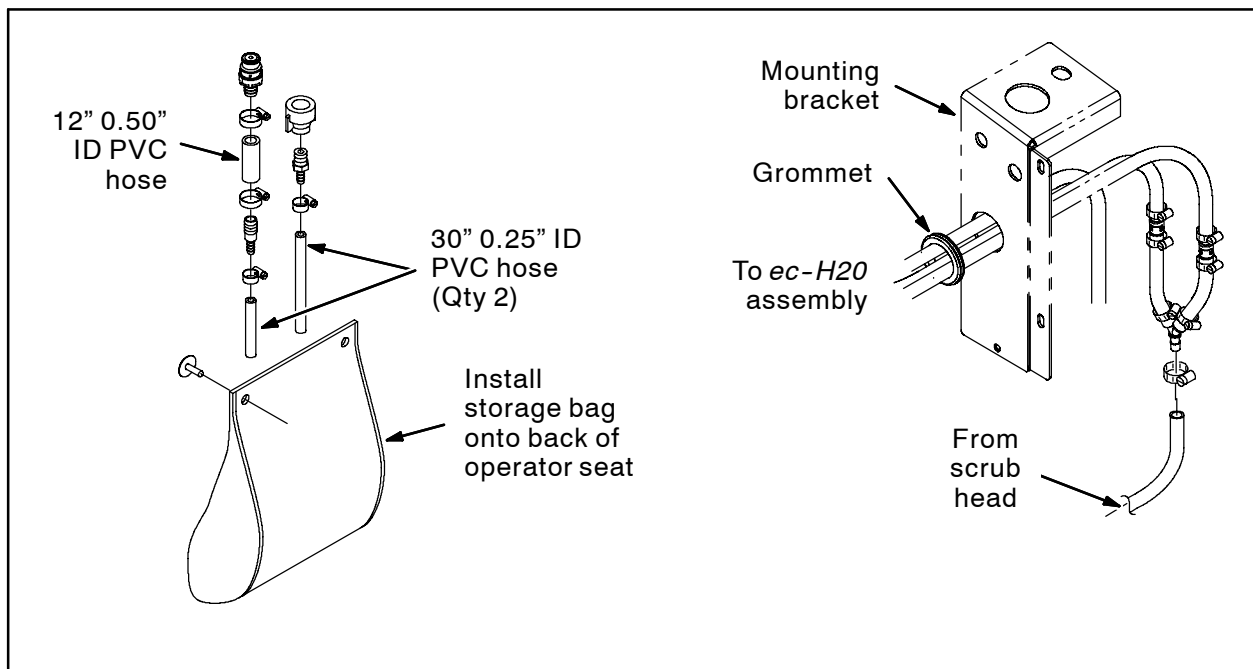

FIG. 8
33. Slide the grommet onto the hoses /cables on the *ec-H20* assembly. Refer to Fig. 8.
37. Install the grommet into the mounting bracket. Refer to Fig. 8.
41. Install the storage bag onto the back of the operator seat. Refer to Fig. 8.
42. Assemble the *ec-H20* flush hose assemblies. Refer to Fig. 8.